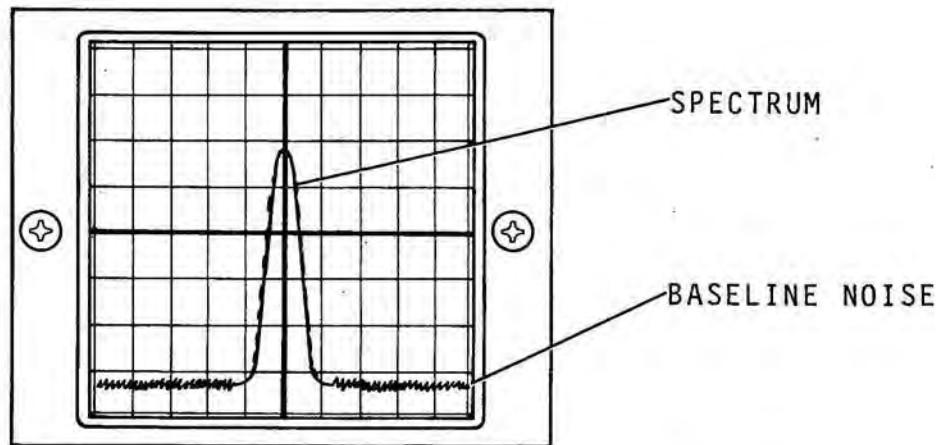

Figure 3-11 Typical Spectrum Analyzer Display
2.	Set PWR/OFF/BATT Switch (11) to either "PWR" or "BATT". Allow a 30 second warm-up time from a cold start, as trace will not become visible until CRT achieves warm-up.
3.	Adjust INTENSITY Control (37) and FOCUS Control (39) to obtain a sharp visible trace display.
4.	Verify presence of a spectrum display as shown in Figure 3-11. Baseline noise should be less than 2 minor divisions in amplitude.